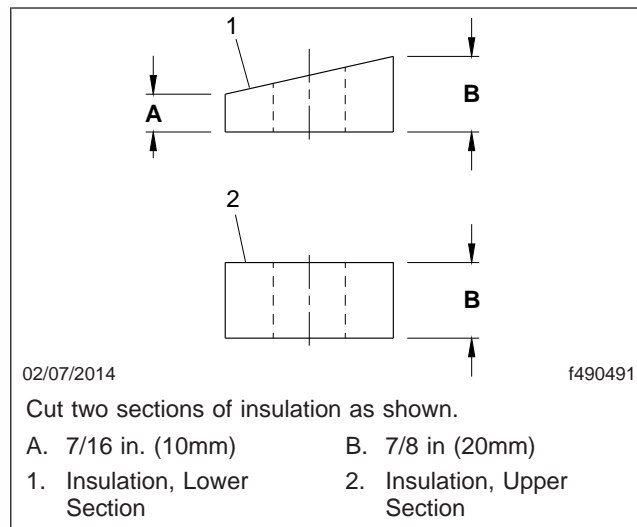

Fig. 1, Cutting the Insulation
5. Cut two pieces of insulation as shown in Fig. 1.